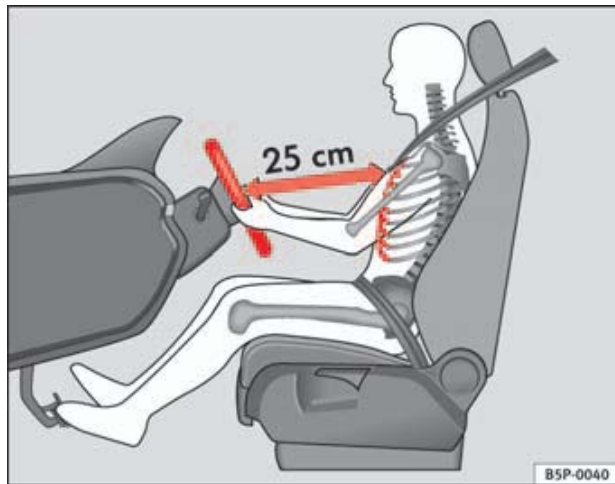

Fig. 1 The proper distance between driver and steering wheel
- Adjust the steering wheel so that there is a distance of at least 25 cm between the steering wheel and the centre of your chest ⇒ **fig. 1**.
- Adjust the driver's seat so that there is at least 25 cm distance between the centre of the chest and the hub of the steering wheel ⇒ page 10, fig. 1. If you are sitting nearer than 25 cm, the airbag system cannot protect you properly.